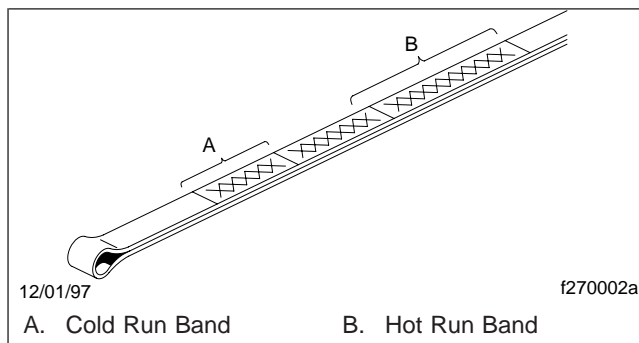

Fig. 11.8, Automatic Transmission Dipstick Markings
- 22.3 Wipe the dipstick clean and check the fluid level. A safe operating level is any level within the HOT run (upper) band on the dipstick. See Fig. 11.8.